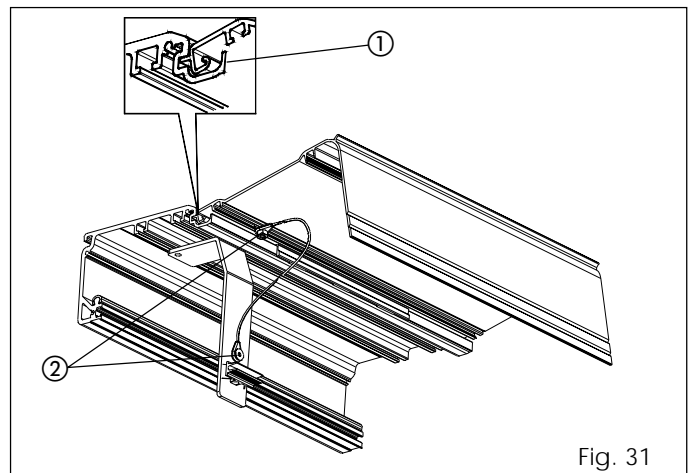

Fig. 31
- To keep the housing open, lift it and push it toward the profile until the metal projection fits into the profile seat (fig.31 ref. ①).
- Fasten the 'parachute' cables on the housing and on the housing fixing brackets as shown in fig. 31 ref. ②.